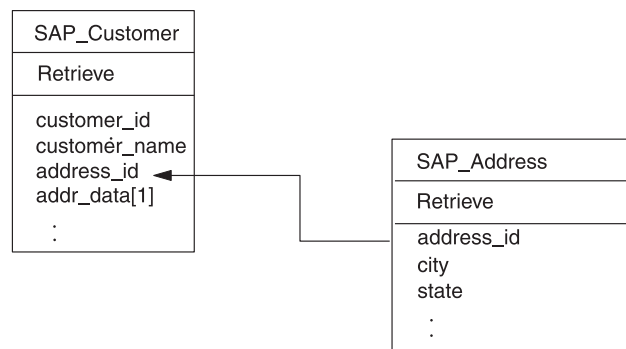

Figure 30. Example customer and address relationship
- In a single-cardinality relationship, the foreign key is determined by the primary key in the child referencing a **non-key** attribute in the parent as its foreign key. Each child has at least one simple attribute that references a non-primary key attribute in its parent as a foreign key. Figure 30 provides an example.
Figure 30 provides an example of a simple WebSphere business object developed to process customer objects in SAP. This example SAP\_Customer has a single-cardinality relationship to the example address object that it contains (the `addr_data[1]` attribute has cardinality 1). The primary key attribute (`address_id`) in the child business object references a non-primary key (`address_id`) in the parent business object.